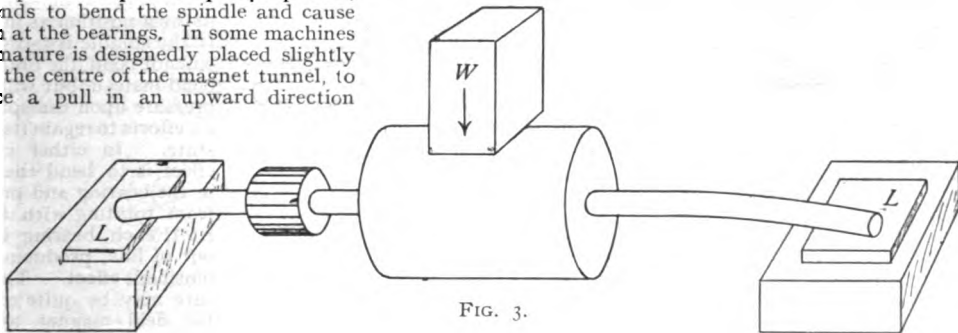

FIG. 3.
If a lathe is not available, and the spindle has been made from bright steel to finished size, it can be tried between a pair of centres rigged up in a wood frame (see Fig. 2), or in a pair of wood or metal V-blocks (see Fig. 3). As the spindle is assumed to be in a finished condition the method of proceeding previously advised should be reversed—that is, the spindle should be adjusted to run true as a first step. If it is bent it may be straightened by placing the ends upon some pieces of iron and giving some careful blows with a hammer (Fig. 3). A piece of lead (L) placed between the iron and the spindle will prevent the latter from being bruised, and a piece of wood (W) can be used to take the blow of the hammer and protect the armature core. When the spindle has been adjusted to run true the core should be tested, the spindle being between centres or in the V blocks. If it does not